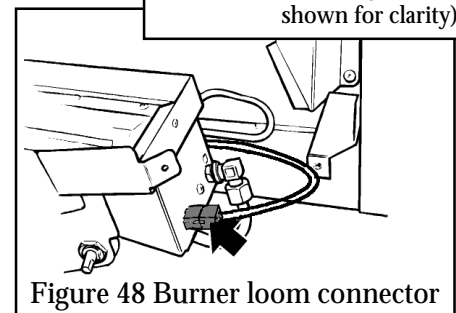

Figure 48 Burner loom connector
15.4.2 Detach the burner wiring loom connection at the right side of the burner (see figure 48).